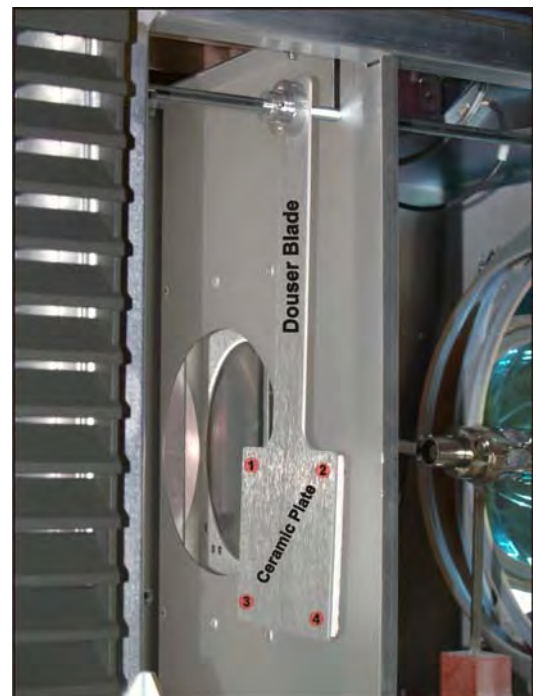

Figure 5-54 Ceramic Plate
3. Using a #2 Phillips™, remove the four screws securing the ceramic plate to the douser blade. **(Figure 5-54)**